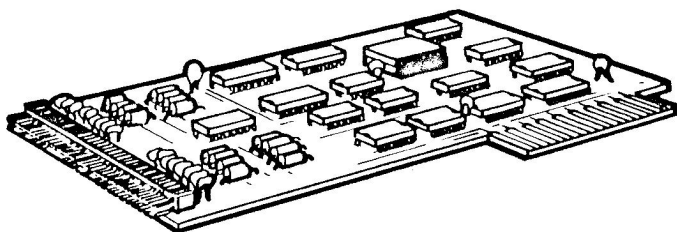

Fig. 2 Host adapter card
- The host adapter card, depicted in Figure 2.